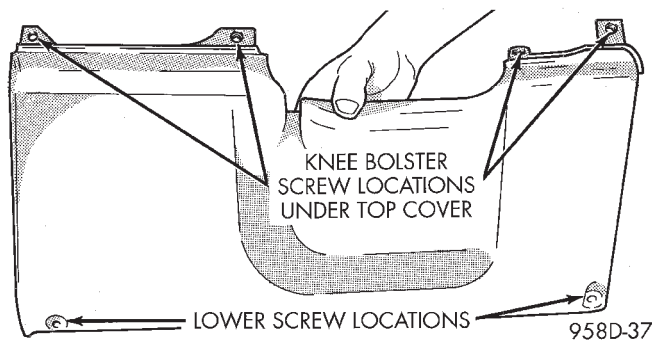

Fig. 57 Knee Bolster Attaching Points
(5) Pull instrument panel top cover up enough to gain access to knee bolster screws (Fig. 57).